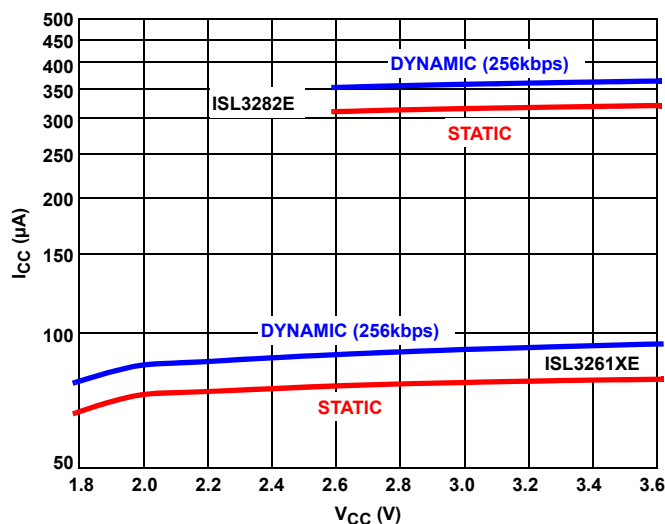

FIGURE 1. ISL3261XE REDUCES OPERATING I_{CC} BY A FACTOR OF 4 FROM PREVIOUS GENERATION RECEIVER ICs, AND OPERATES WITH SUPPLY VOLTAGES AS LOW AS 1.8V
The ISL32610E, ISL32611E, ISL32612E are ±16.5kV IEC61000 ESD protected, fractional unit load (UL), 1.8V powered, single differential receivers (Rx) for balanced data communication using the RS-485 and RS-422 standards. With their 85µA supply currents, the receivers are optimized for low power applications, and deliver the lowest supply currents of any available single Rx IC (see Figure 1).